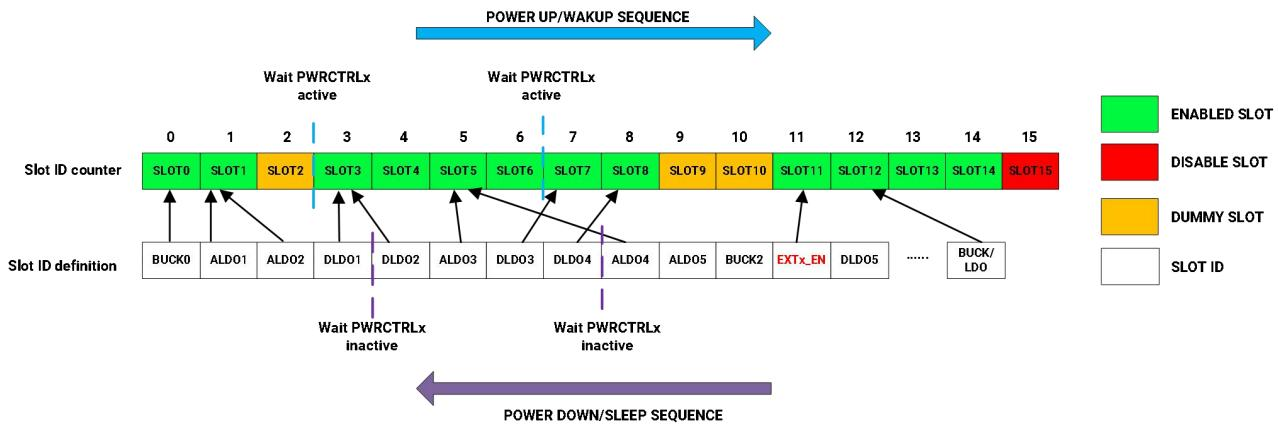
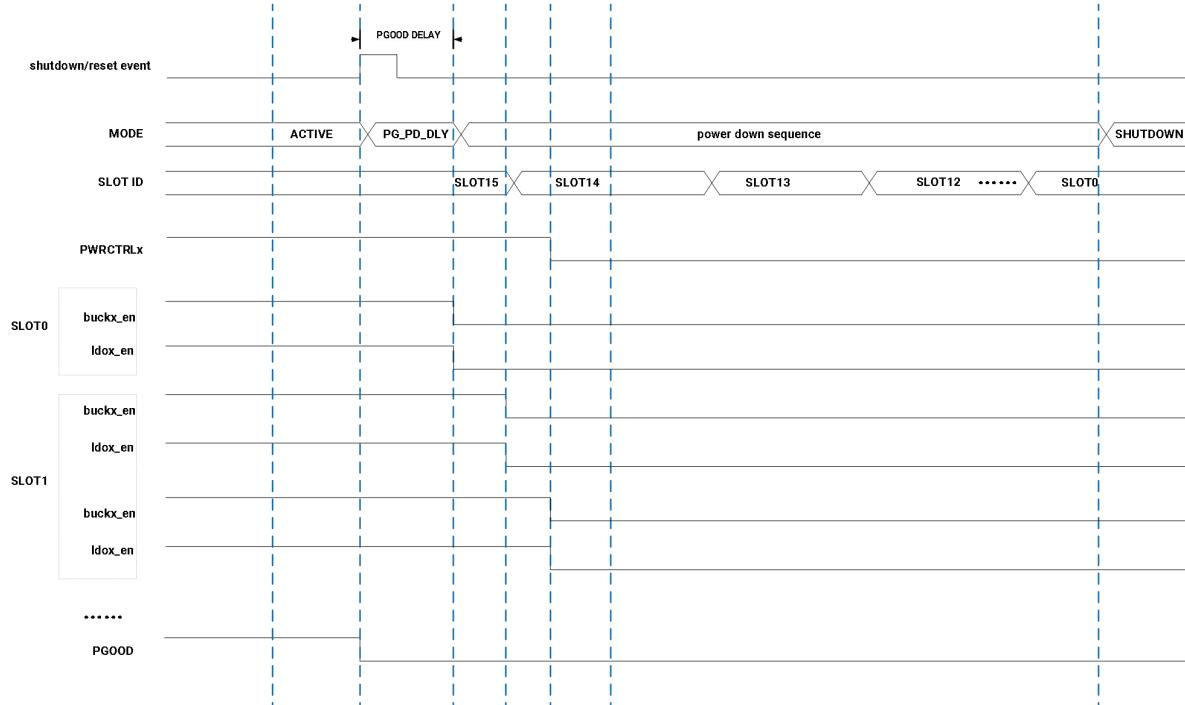

Figure 6-4 Sequence Controller Timing Diagram
Figure 6-7 Shutdown Sequence Timing Diagram
- ❖ The behavior within each SLOT follows the same logic as the startup sequence, but trigger conditions and output polarity are inverted (see Figure 6-4 Sequence Controller Timing Diagram, Figure 6-7 Shutdown Sequence Timing Diagram).